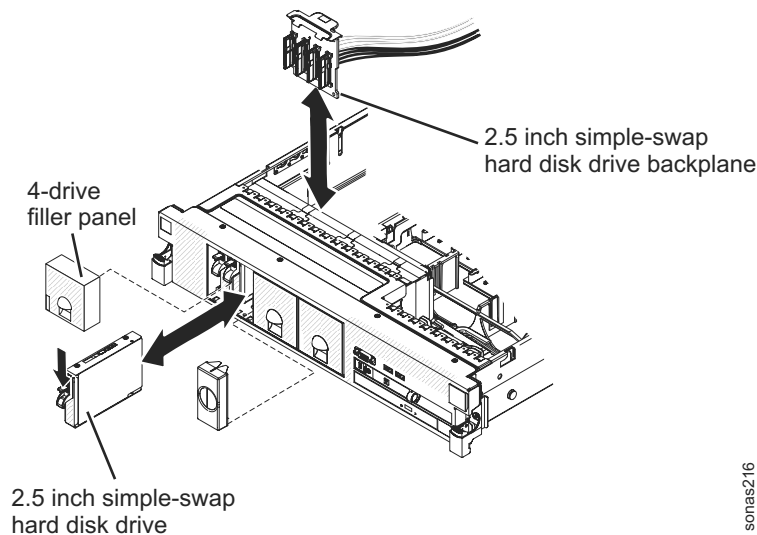

Figure 39. Simple-swap drive assembly
2. Install the 2.5 inch simple-swap hard disk drive backplane. See Figure 39.
4. Orient the drive, as shown in Figure 39.